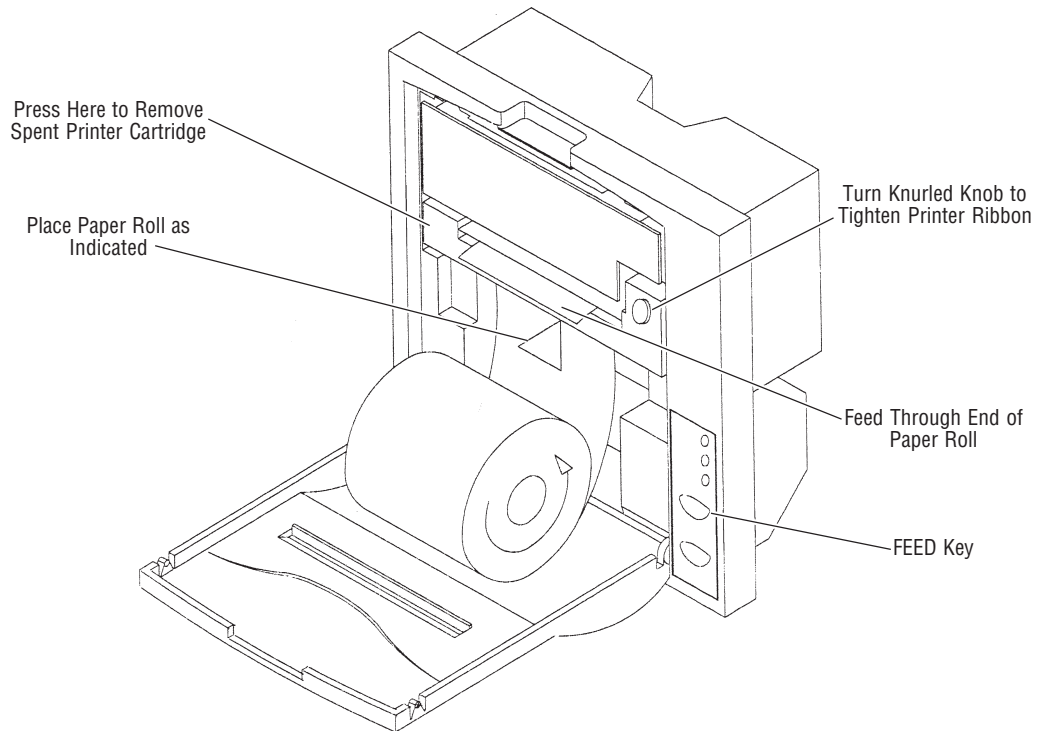

Figure 8-4. Change Paper for Mylox-style Printer
1. Open the top cover of the printer and place the paper roll in position, observing the direction of the arrow indicated in Figure 8-4.
2. Insert the end of the roll into slit of print mechanism (see Figure 8-4); paper auto-loads after a slight delay.
3. In cases where autoloading feature is not installed on the system, press FEED key (see Figure 8-4) so that a few centimeters of paper come out of the printer.
1. Open the top of the printer and remove the old ribbon cartridge by pressing down at point indicated in Figure 8-4.
3. Pull the ribbon tight turning the knurled knob (see Figure 8-4), then close the printer's top again.